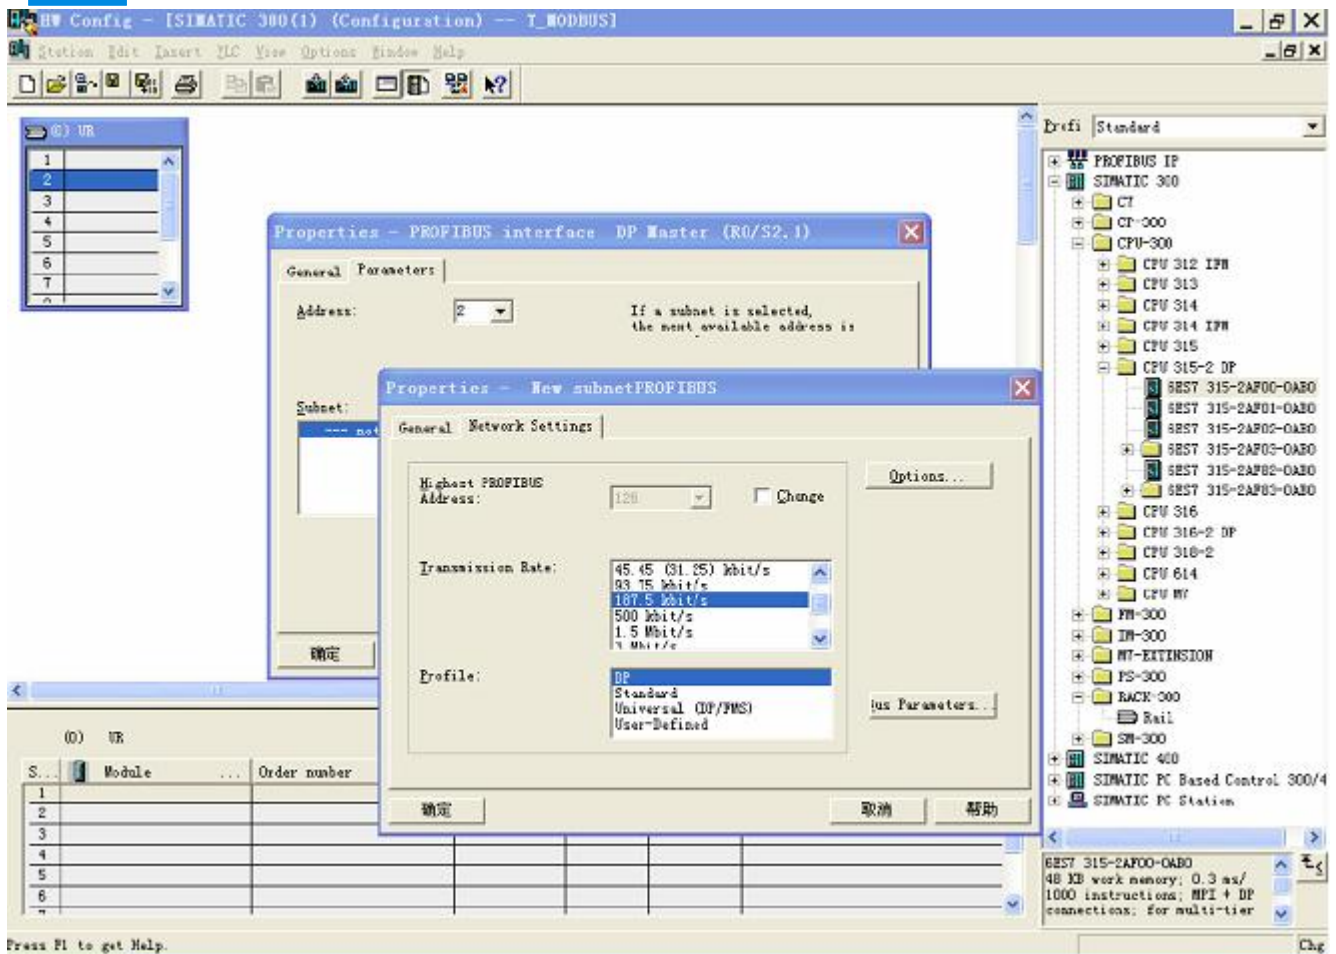

Figure 8
9. Create Profibus-DP network and set up Profibus-DP: Click New and then Network settings, select DP; select a baud rate such as 187.5Kbps, then "OK". Double-click it; Figure 8: